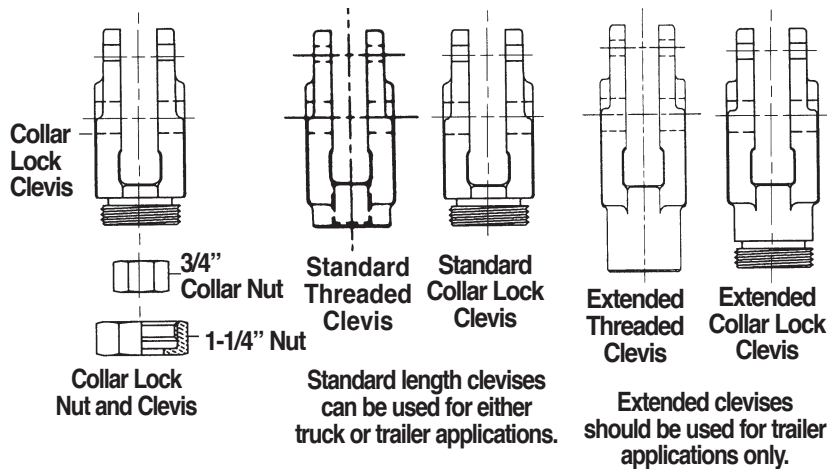

Figure 2 - Clevis Types
4. Refer to **Figure 2** and determine if your CSI Midland/Gunite automatic brake adjusters are equipped with the threaded clevis or the collar lock clevis (extended or standard length). Refer to the correct installation procedure for the style of clevis used on your CSI Midland/Gunite automatic brake adjusters.